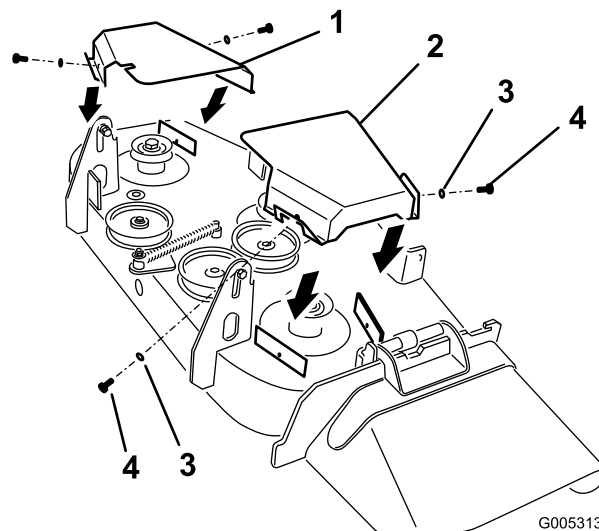

Figure 46
4. Remove the 2 bolts and washers in each belt cover and remove the belt covers (Figure 46).
9. Install the belt covers over the outside spindles (Figure 46).